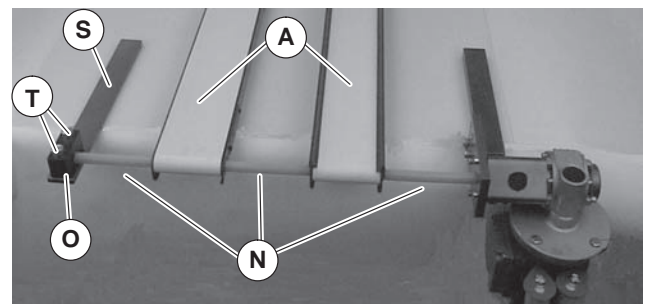

Figure 9
- Remove screws (Figure 9, item T) and remove bearing block (O).
- Slide hex shaft through conveyors (Figure 9, item A) and shaft cover pieces (N) and into flex coupling.
- Attach bearing block (Figure 9, item O) to bearing support bar (S) with screws (T). Tighten screws (T) to 35 ft-lb (45.5 Nm).